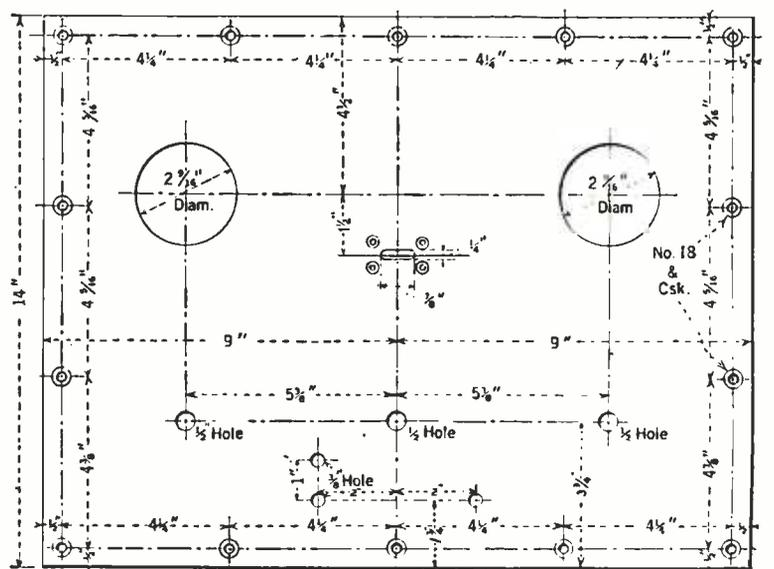

FIG. 12
- (2) Lay out and drill the main panel in accordance with Fig. 12.
- (3) Mount the various instruments on the panel and then fasten it to the wooden frame.
- (4) Remove the shelf from the frame and mount the various instruments as shown in the illustrations.
- (5) On the floor of the frame mount the batteries, choke, and modulation transformer.
- (6) Drill  $\frac{3}{8}$ " holes through the shelf at the points where connections are to be made to the tuning condensers.
- (7) Run long bus bar connections from the terminals of the three tuning condensers to points tallying with the position of the holes previously made in the shelf.
- (8) Mount the shelf in place, passing the wires from the condensers through the holes in the shelf.
- (9) Complete the connection of these wires to the coils.
(10) Wire the rest of the transmitter using No. 18 lamp cord for the power and filament leads and bus bar for the "hot" connections—i.e., grid and plate leads.